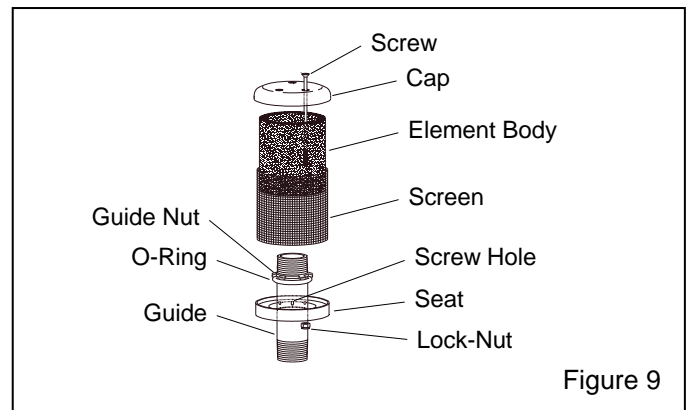

Figure 9
**5.10 Exhaust Muffler, Figure 9**
**5.10.7** Reassemble, taking care to correctly insert the screws in the seat plate. The screw holes are the three closest to the center. See the illustration in Figure 9.